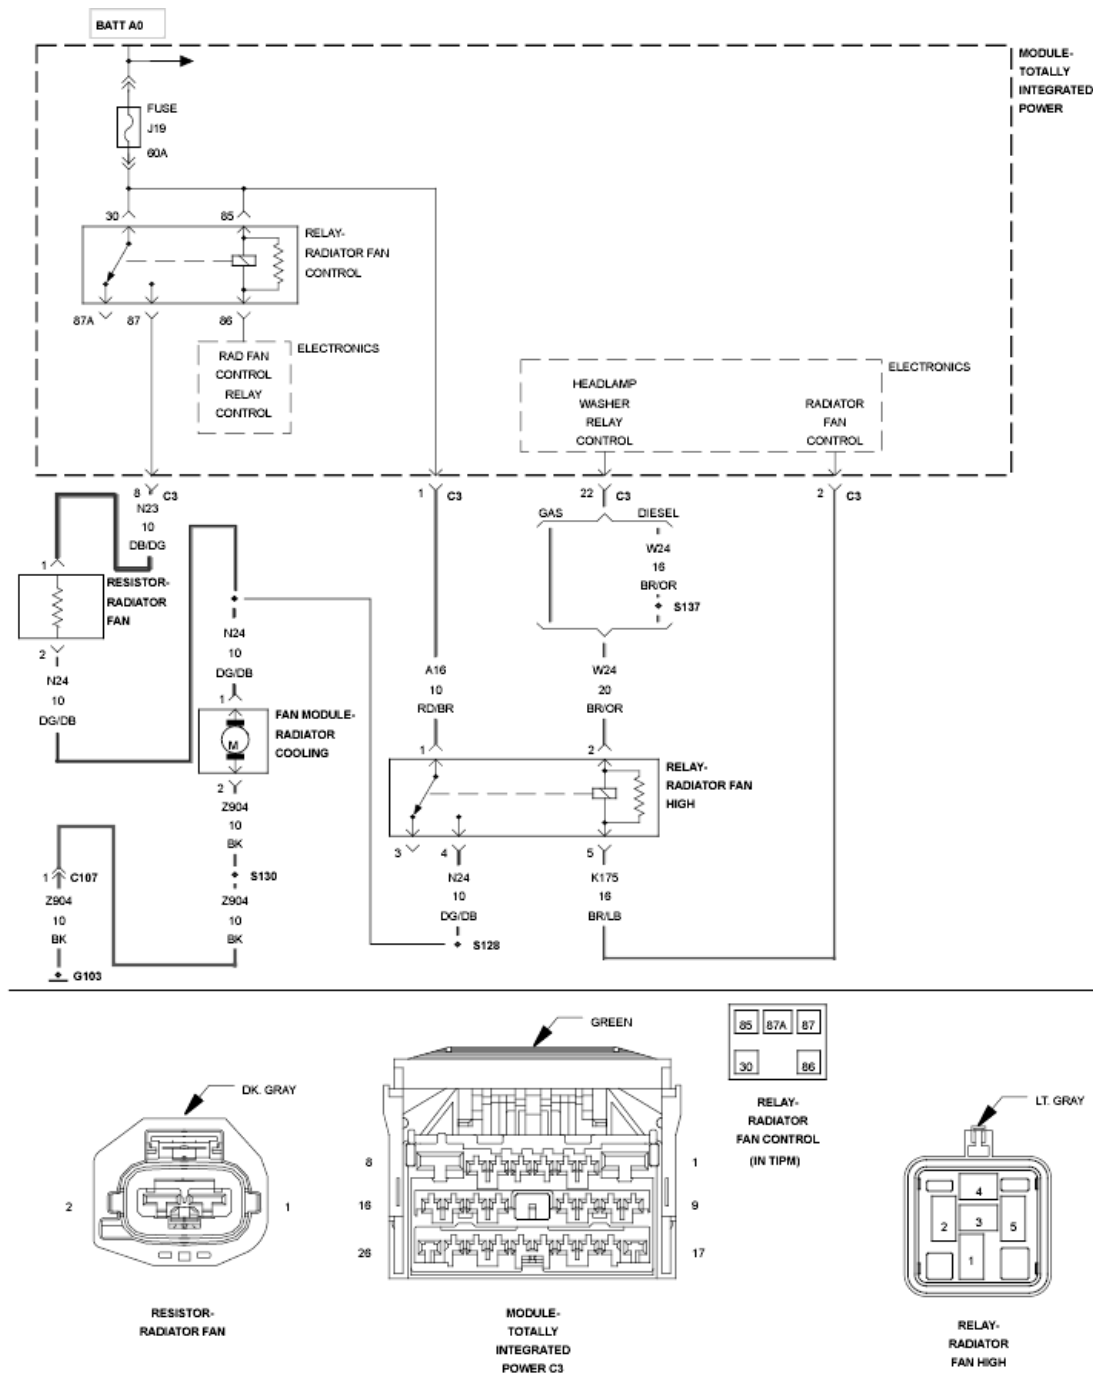

Fig. 17: Cooling Fan Operation Circuit Schematic
1. Using **Fig. 17** as a guide, inspect the wiring and connectors between the Cooling Fan Module, TIPM, and the Powertrain Control Module (PCM).